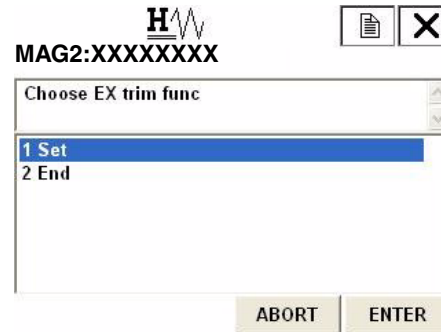

Figure 129.
5. Figure 129 appears. When executing the adjustment, choose “Set” and press F4 (ENTER).
6. A numerical value input display (Figure 130) then appears. Resistance of 10 ohm is in between the check pin. Therefore, when the excitation current is 3.5 mA, approx. 35 mV is output. Measure this value, and input the value by the mV directly. Press F4 (ENTER). The transmitter starts adjusting to 3.5 mA automatically, and returns back to the display as shown in Figure 129. Verify that the excitation current value is 3.5 mA, and terminate the adjustment.